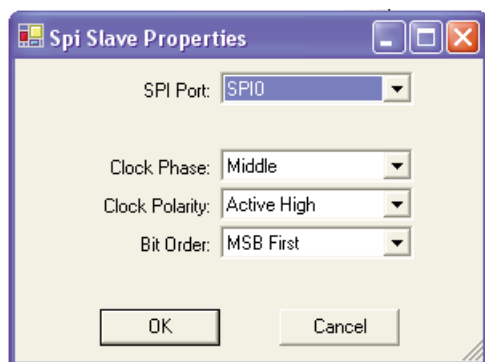

Figure 11.2
7. Click the **PROPERTIES** button. The SPI\_Slave Properties dialog will open. This dialog is used to configure the SPI\_Slave on the target. See Figure 11.2.